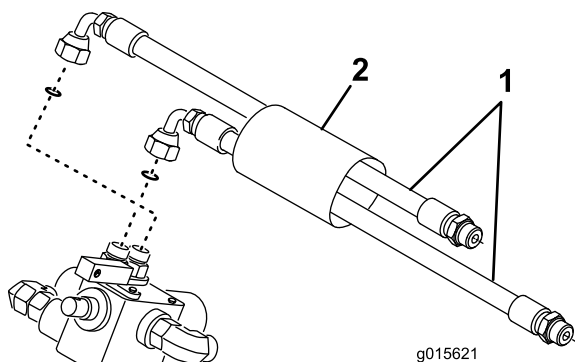

Figure 6
14. Connect the 2 hydraulic hose assemblies to the fittings on top of the control valve (Figure 6).
15. Install the protective sleeve over the hoses (Figure 6).